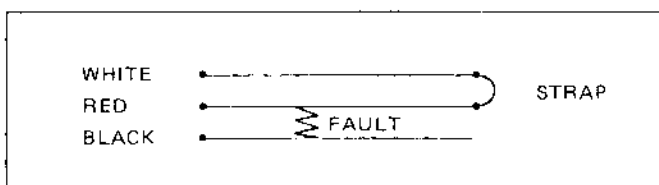

Figure 2 — With One Good Conductor
- (E) With the Model 210 calibrated to the correct temperature and gauge, disconnect the red and white test leads from the posts of the temperature probe and connect all the clips to the conductors under test as shown in Figures 2 and 3.